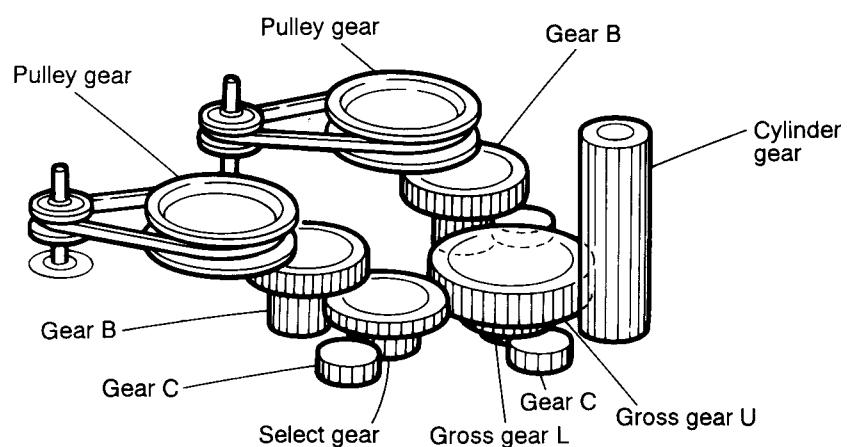

Fig. 2-28
4. Remove the belts respectively from the right and left actuator motor pulleys and pulley gears (See Fig. 2-28).
[Note] When the chassis assembly is turned over under the conditions wherein the gear bracket and belt have been removed, then the pulley gear as well as the gear, etc. constituting the gear unit can possibly be separated to pieces. In such a case, assemble these parts by referring to the assembly and configuration diagram in Fig. 2-28.